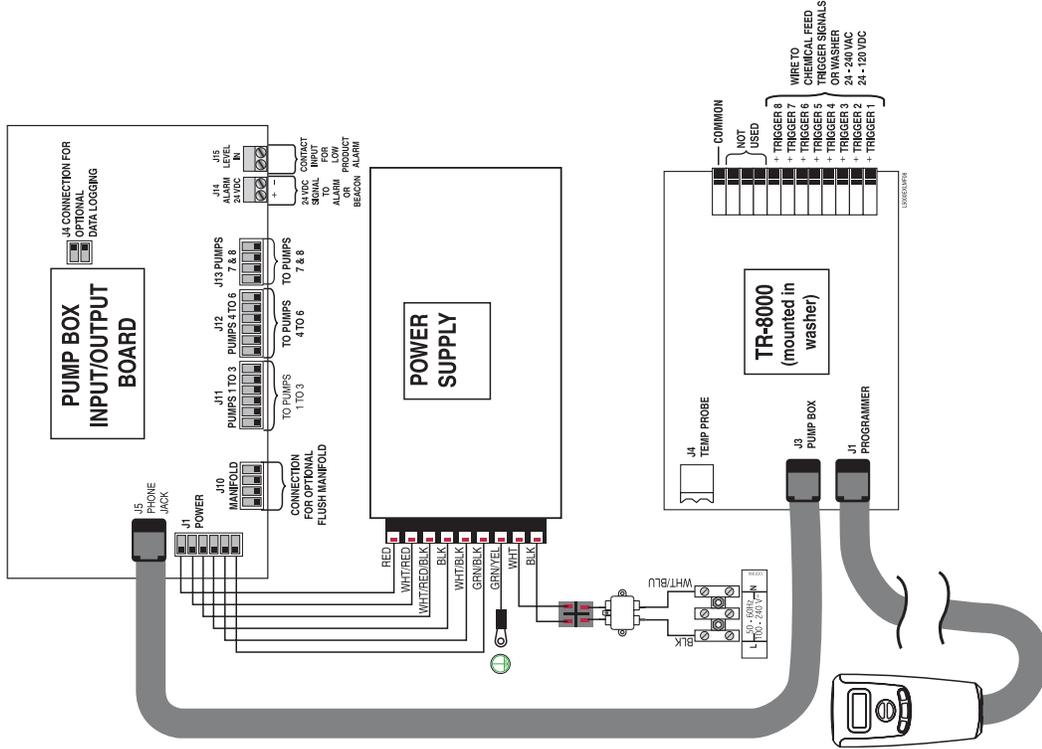

Figure 3. XL System Pump Box Wiring with TR-8000
2. Connect the mains voltage to terminal strip according to its "L" (hot) and "N" (neutral) label designations (See Figure 3). The mains input is rated for 100-240 VAC, 50-60 Hz, 320 watts (for XL) or 65 watts (for E). There is no difference in wiring between 100 and 240 volt power supply.